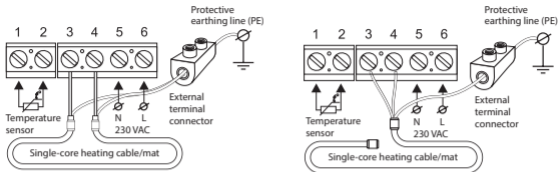

Figure 4
The heating element installation wires are to be connected to terminals 3 and 4; the screening braid output (yellow-green wire) – to the protective earthing (PE) line via the external terminal contact (not included in the scope of delivery) (Figure 4).